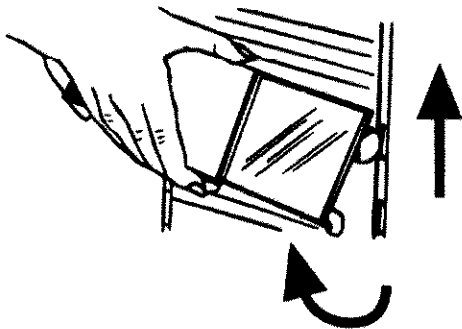

Figure 11
- Hold shelf against door and tap down gently on both ends until shelf is seated securely. See Figure 11.